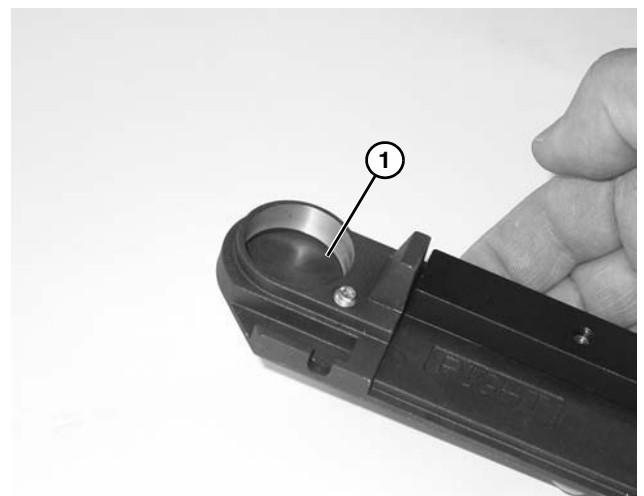

Figure 58
1. Inspect the head plates bearing seating surface (**Figure 58, item 1**). If they are worn or damaged, replace. See "Service Parts" on page 32.